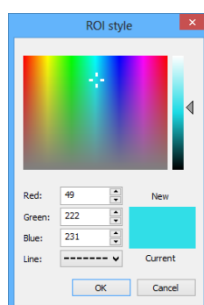

Figure 372 – ROIs style dialog
3. Select the desired color and line style in the dialog (see Figure 372).